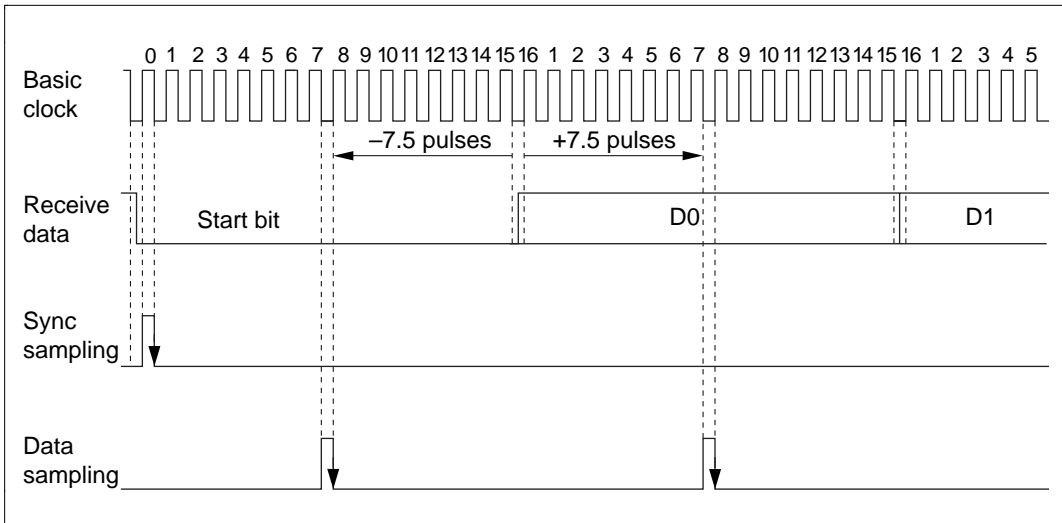

Figure 11-18 Sampling Timing (Asynchronous Mode)
(4) Sampling Timing and Receive Margin in Asynchronous Mode: The serial clock used by the SCI in asynchronous mode runs at 16 times the bit rate. The falling edge of the start bit is detected by sampling the RxD input on the falling edge of this clock. After the start bit is detected, each bit of receive data in the frame (including the start bit, parity bit, and stop bit or bits) is sampled on the rising edge of the serial clock pulse at the center of the bit. See figure 11-18.